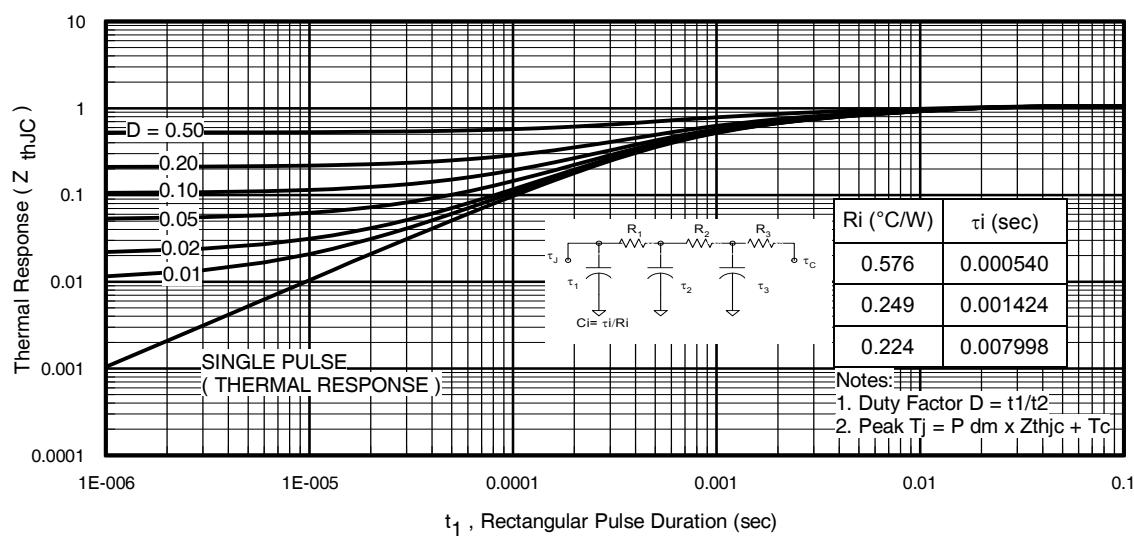
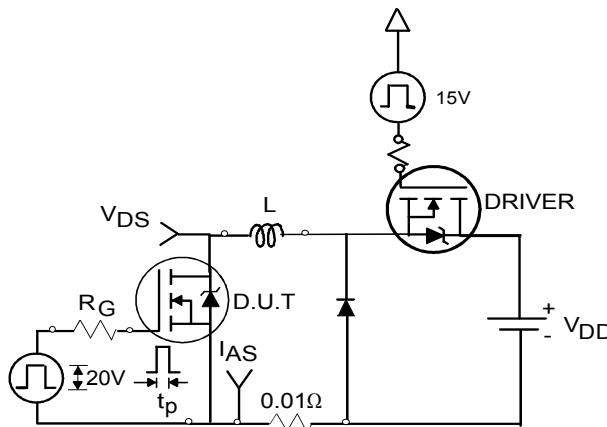

Fig 11. Maximum Effective Transient Thermal Impedance, Junction-to-Case
Fig 12a. Unclamped Inductive Test Circuit
- ① Repetitive rating; pulse width limited by max. junction temperature. (See fig. 11)
- ② Limited by T_{Jmax} , starting $T_J = 25^\circ\text{C}$, $L = 0.28\text{mH}$, $R_G = 25\Omega$, $I_{AS} = 33\text{A}$, $V_{GS} = 10\text{V}$. Part not recommended for use above this value.
- ③ Pulse width $\leq 1.0\text{ms}$; duty cycle $\leq 2\%$.
- ④ $C_{\text{oss eff.}}$ is a fixed capacitance that gives the same charging time as C_{oss} while V_{DS} is rising from 0 to 80% V_{DSS}
- ⑤ Limited by T_{Jmax} , see Fig.12a, 12b, 15, 16 for typical repetitive avalanche performance.
- ⑥ This value determined from sample failure population, starting $T_J = 25^\circ\text{C}$, $L = 0.28\text{mH}$, $R_G = 25\Omega$, $I_{AS} = 33\text{A}$, $V_{GS} = 10\text{V}$.
- ⑦ When mounted on 1" square PCB (FR-4 or G-10 Material). For recommended footprint and soldering techniques refer to application note #AN-994
- ⑧ R_θ is measured at T_J approximately 90°C .
3. Equation below based on circuit and waveforms shown in Figures 12a, 12b.